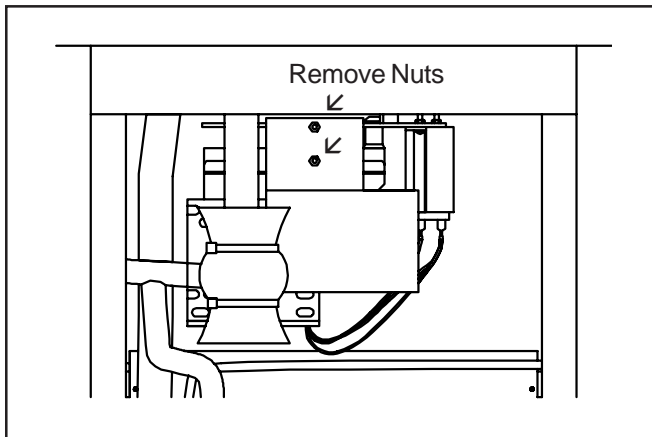

Figure 40. Removing Torque Control
2. Using a 5/16" wrench, remove the two nuts and star washers from the torque control mounting bracket (Fig.40).